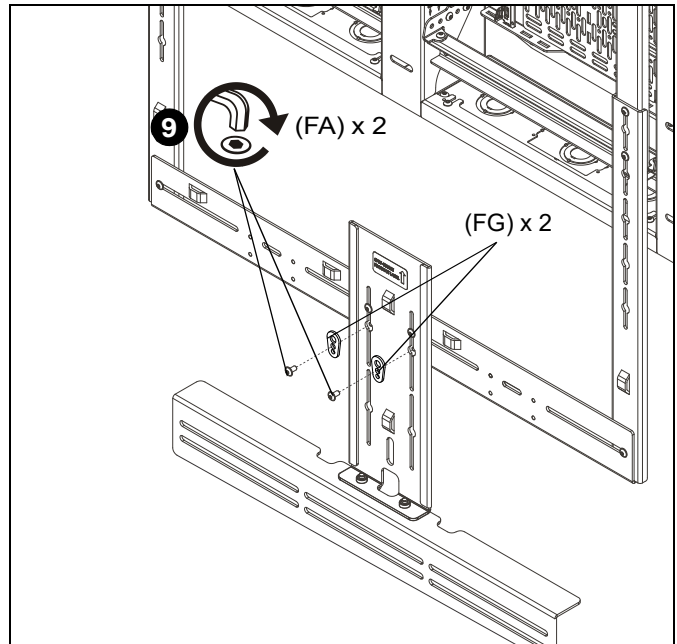

Figure 8
NOTE: If desired mounting height is a location where screws are aligned with keyhole locations, use universal washers (FG) to secure shelf in position. (See Figure 8)